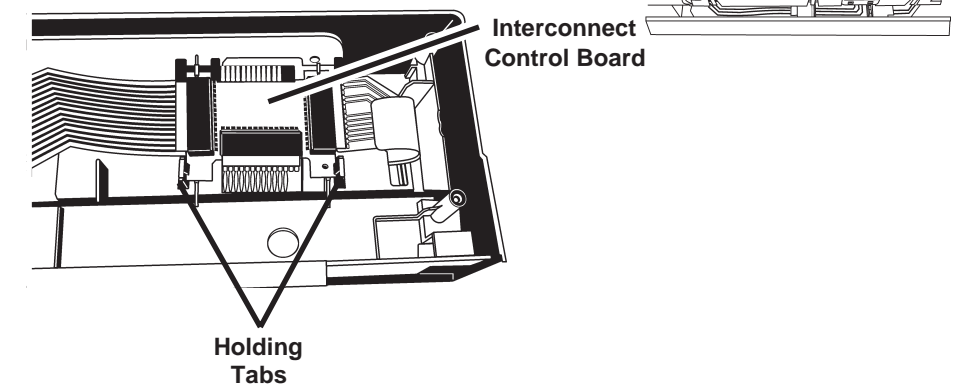

Fig. 3-3
3. Once the Electronic Control Board is removed, a ribbon cable interconnect board is exposed. (Fig. 3-3)